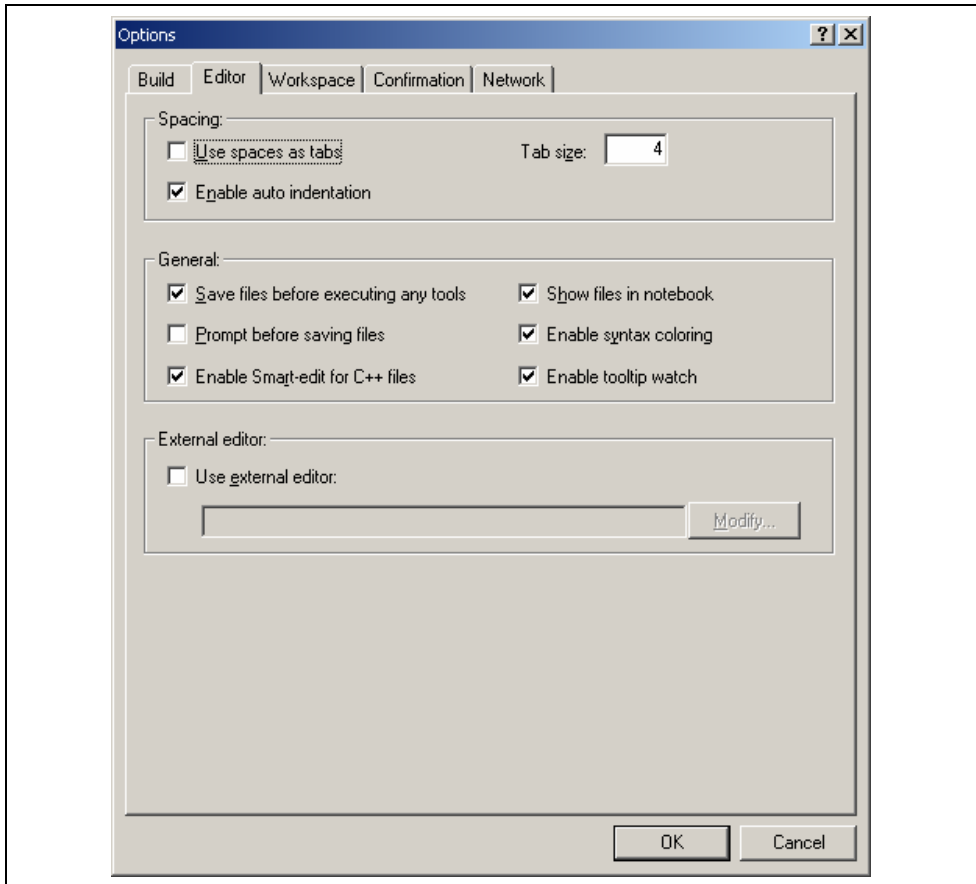

Figure 6.12: Options Dialog Editor Tab
1. Select [**T**ools->**O**ptions...]. The “Options” dialog will be displayed. Select the “Editor” tab (figure 6.12).
The High-performance Embedded Workshop allows you to customize file save on the “Editor” tab of the “Options” dialog (figure 6.12). To open the tab, select [**Tools->Options...**] and click the “Editor” tab.